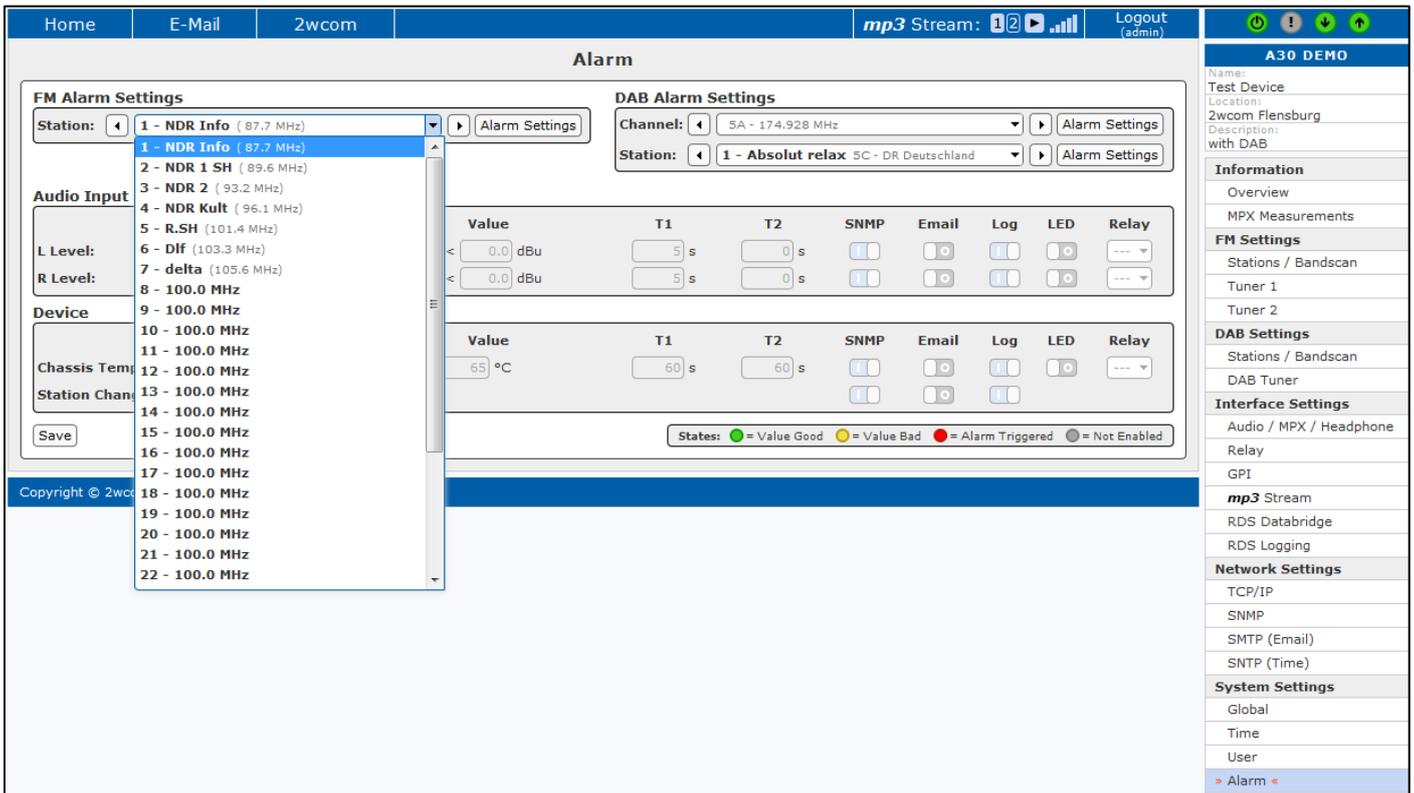

Fig. 25: Station selection for alarm settings.
2. Select the configured Station in the dropdown menu "Stations Alarm Settings", for which the monitoring should be set up (see Fig. 25).
2. Select the configured Station in the dropdown menu "Stations", for which the monitoring should be set up (see Fig. 25).